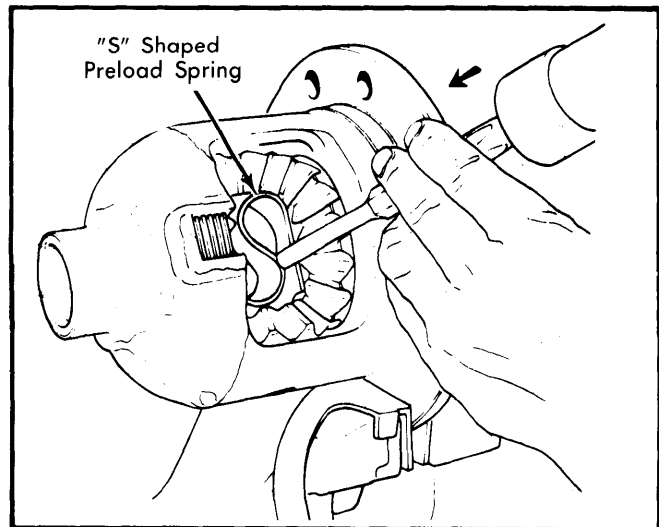

Fig. 3 "S" Shaped Preload Spring Removal
2) Remove the differential pinion shaft lock bolt and remove the pinion shaft. With suitable tool, drive out the "S" shaped preload spring. See Fig. 3.